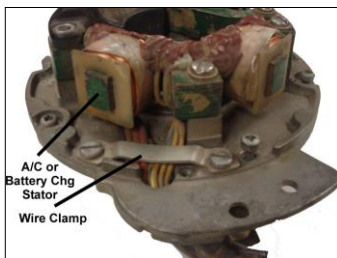

Fig. 1
5. Remove the wire clamp bracket on the top of the Stator plate. (Fig. 1)